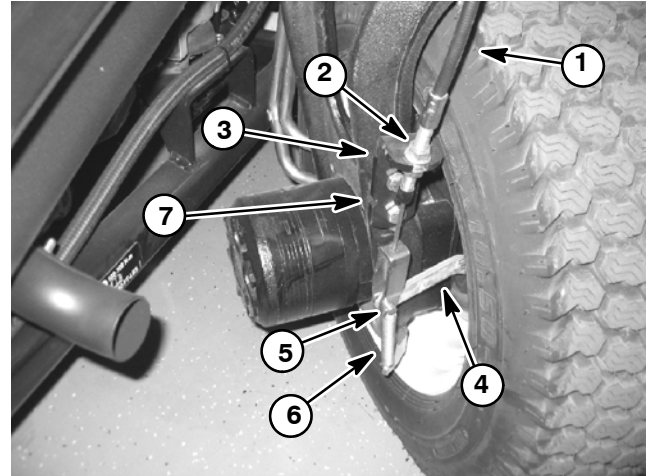

Figure 16
**NOTE:** Brake bracket should have notch orientated toward machine frame (Fig. 16).
- A. Install cable end to cable yoke (item 4).
- A. Secure brake cable to brake actuator lever with clevis pin (item 7) and return spring (item 11).
- B. Position brake cable to brake bracket (item 8) and secure with jam nuts.